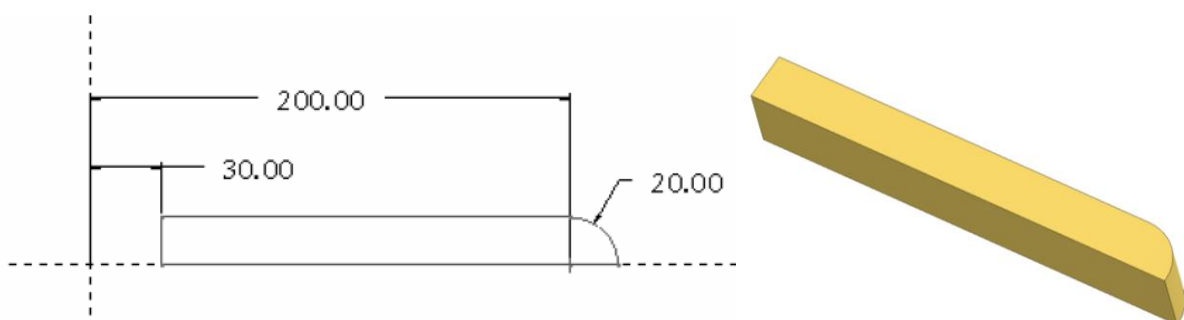

Figure 3 – First Feature Sketch
- Next create an extrusion. From the dashboard choose the Sketch icon then pick the datum plane **TOP** by clicking on it in the graphics window or in the browser. Draw the sketch in Figure 3. Exit sketcher ☒ and type in the extrusion distance of **30**. Finish the feature with ☒.